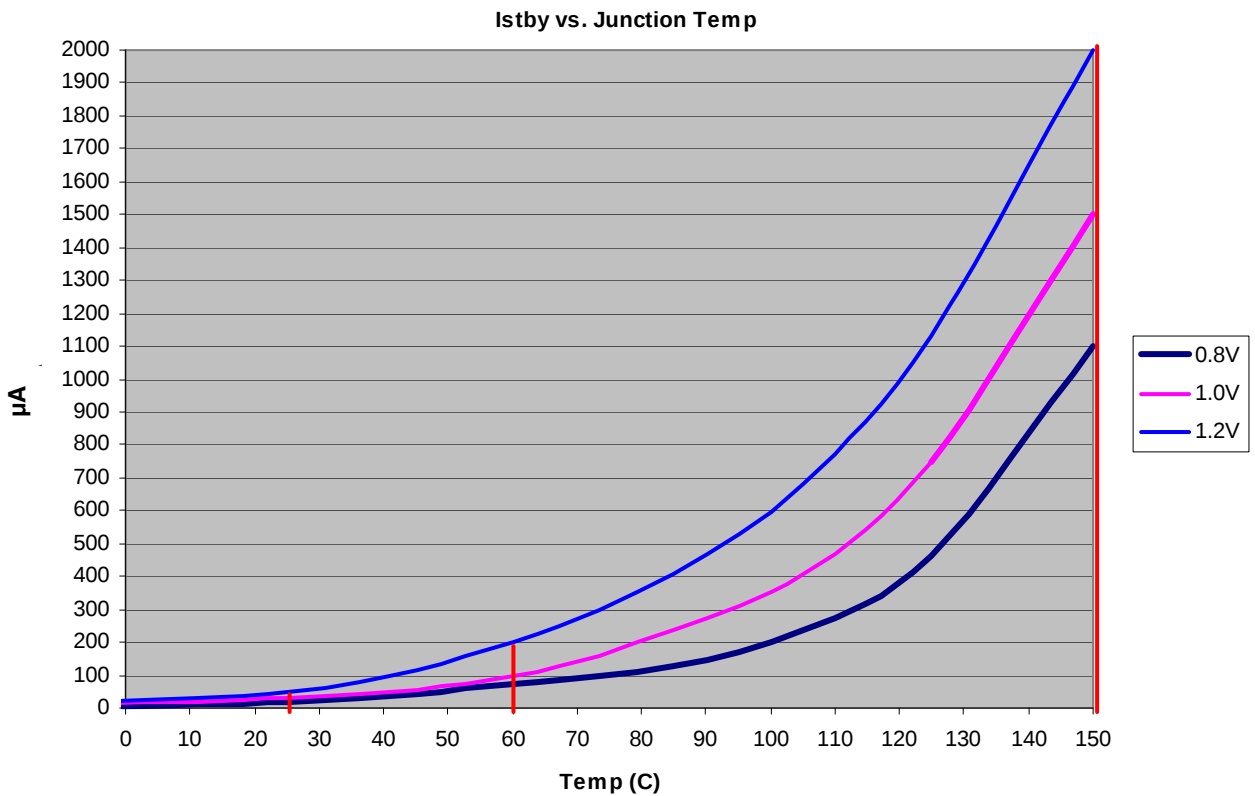

Figure 3. $I_{S\text{TB}\text{Y}}$ Worst-case Specifications
⁷ Figure 3 shows an illustration of the I_{DD_STBY} values interpolated for these temperature values.
- ¹⁴ Figure 3 shows an illustration of the I_{DD_STBY} values interpolated for these temperature values.
- ¹⁸ Figure 3 shows an illustration of the I_{DD_STBY} values interpolated for these temperature values.
Figure 3 shows an approximate interpolation of the $I_{S\text{TB}\text{Y}}$ worst-case specification to estimate values at different voltages and temperatures. The vertical lines shown at 25 °C, 60 °C, and 150 °C in Figure 3 are the $I_{\text{DD_STBY}}$ specifications (27d) listed in Table 9.